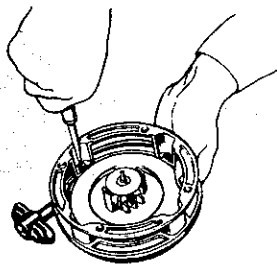

FIG. 8
2. Remove the following parts and assembly: Large washer (7), spring (8), washers (9 and 10), friction shoe assembly (including parts 11, 12, 13 and 14), washers (10 and 9).
3. To prevent rotation of rotor (17), it must be held while removing the four screws as shown in Fig. 8. Continue to hold the assembly as shown and remove flange (3). Now the tension of the rewind spring (18) can be relieved by releasing rotor and allowing spring to unwind slowly.
4. Holding rotor in a similar manner as shown in Fig. 8, replace flange (3) and mount in place with screws (4).